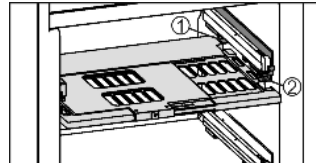

Fig. 5
- ▶ To insert the humidity control plate: Insert the guide pieces of the plate into the rear retainer *Fig. 5 (1)* from below, then snap the plate into the retainer *Fig. 5 (2)* in the front.